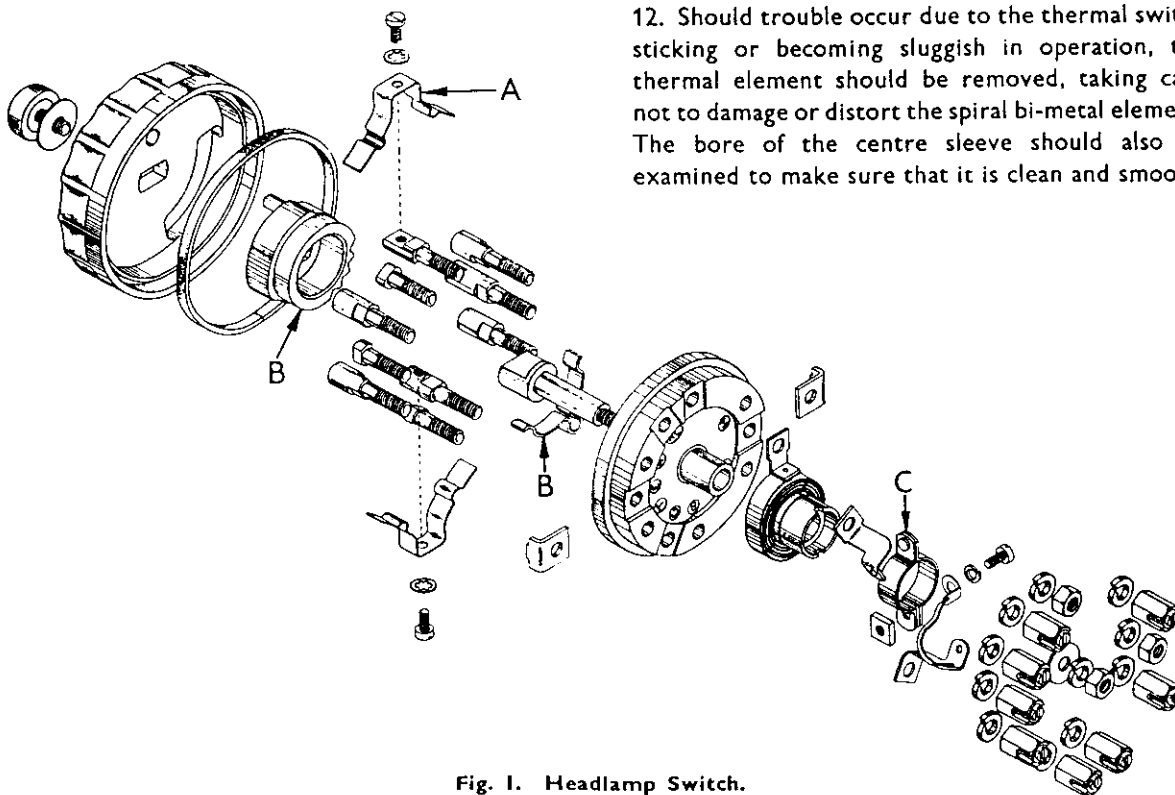

Fig. 1. Headlamp Switch.
prolonged life without distortion or fatigue. Should these springs become distorted and require re-setting, to give greater pressure on the terminal studs, they should be set with great care at the base of the leaf. (See point where arrow indicating part A is shown on Fig. 1). When tightening the spring retaining screw it is important to ensure that the springs seat squarely on the flat machined on the locating pillar.
If this operation is carried out with the cam and ratchet assembly (part B, Fig. 1) removed from the switch, the bowed ends of the ratchet spring should be pinched together between the thumb and finger until the gap in the locating hole is closed. This reduces the effective diameter of the spring locating loop and facilitates insertion of the spring in the moulding.
The thermal switch contact pressure and the length of time required to close may be adjusted by turning the bracket carrying the adjustable contact Part C, Fig. 1) relative to the centre sleeve.
13. After slackening the clamping screw the bracket carrying the adjustable contact (Part C, Fig. 1) should be moved so that the tension of the spiral element is *just sufficient* to pull the adjustable contact breaker back against the stop formed by the connector assembly.